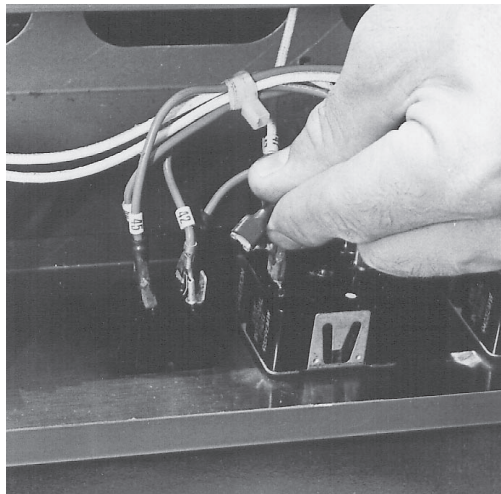

Fig. 12
4. Note and remove the light wiring. (Fig. 12)